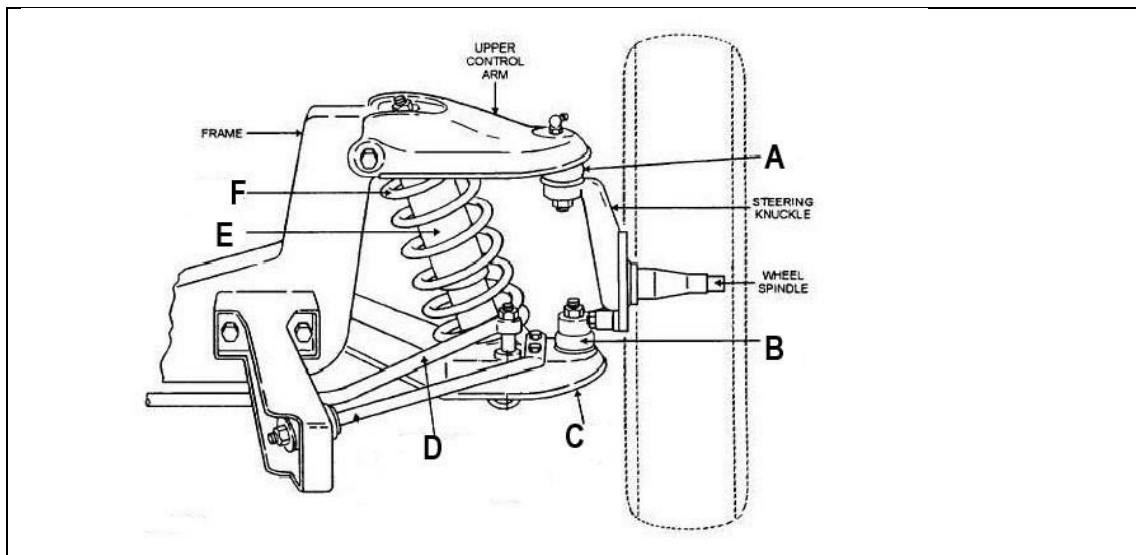

FIGURE 3
3.5 FIGURE 3 Shown below is an independent front suspension. Identify and name the components A-F in the ANSWER BOOK.